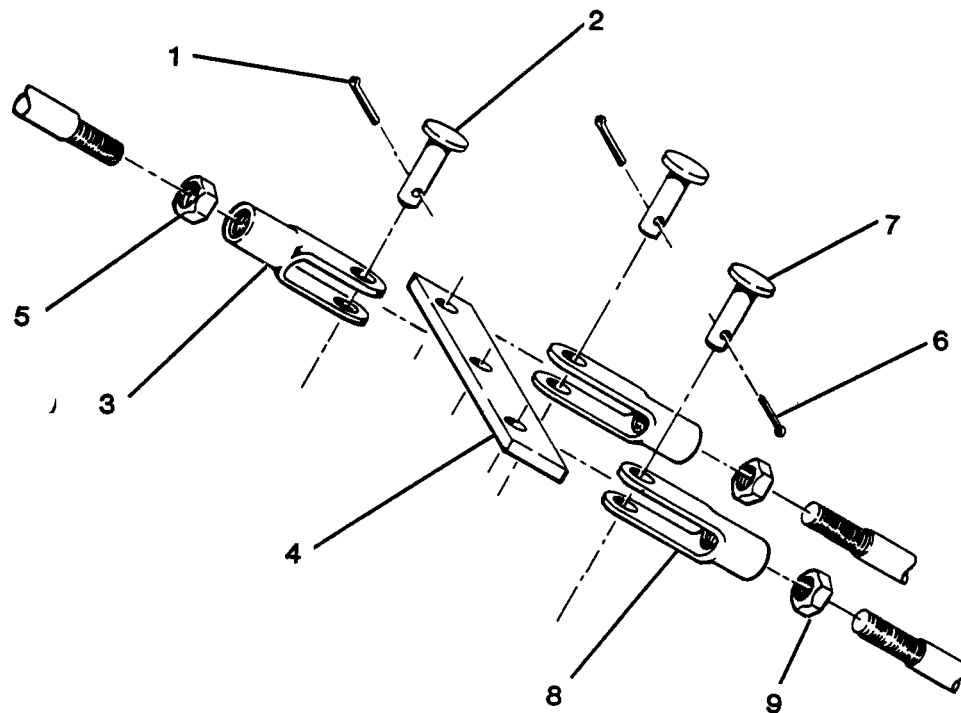

Figure 4-54. Brake Control Adjustment
(3) If both wheels continue to move with handbrake set and grip adjusted, chock both wheels.
(4) Remove cotter pin (1, figure 4-54) and straight pin (2) that attach clevis (3) to cable equalizing bar (4).
(5) Loosen jamnut (5). Turn clevis clockwise.
(6) Tighten jamnut and attach clevis to cable equalizing bar with straight pin and cotter pin. Repeat procedure until wheels no longer move.
(7) If only one wheel moves, an adjustment of the brake cable link to that wheel is required.